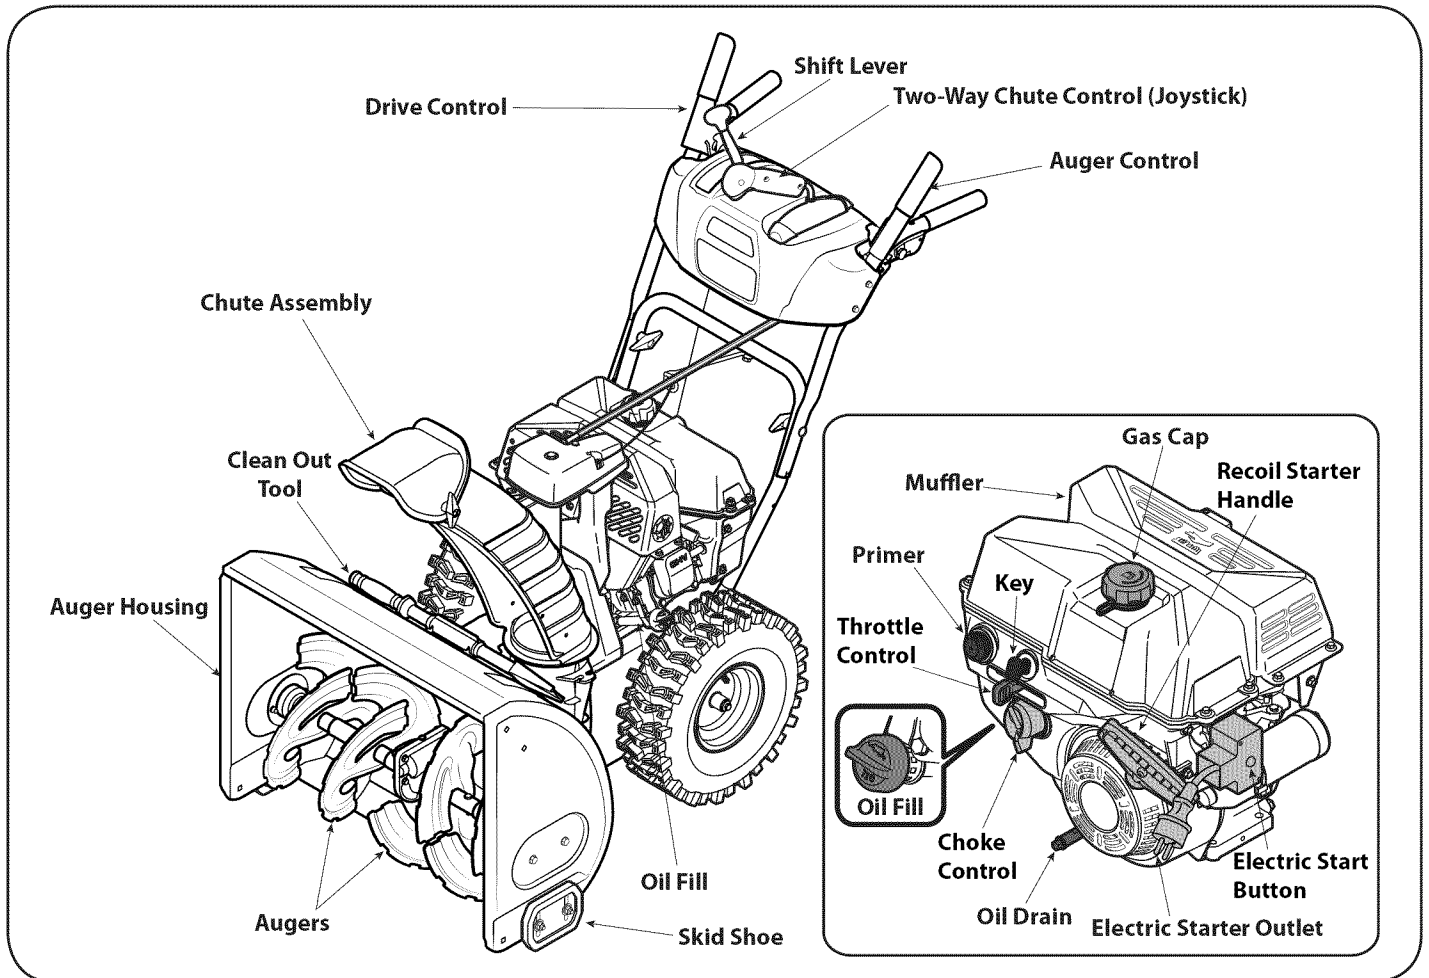

Figure 16
Now that you have set up your snow thrower, it's important to become acquainted with its controls and features. Refer to Figure 16.
2. A fuel level indicator is located in the fuel tank. See Figure 16 inset. Be careful not to overfill. Fill tank until fuel reaches the fuel level indicator to allow space for fuel expansion.